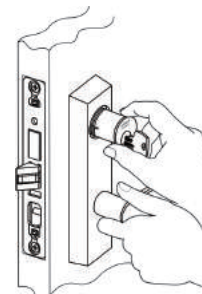

Figure 3
2. Screw cylinder into lock body until flush with escutcheon face. (Figure 3)